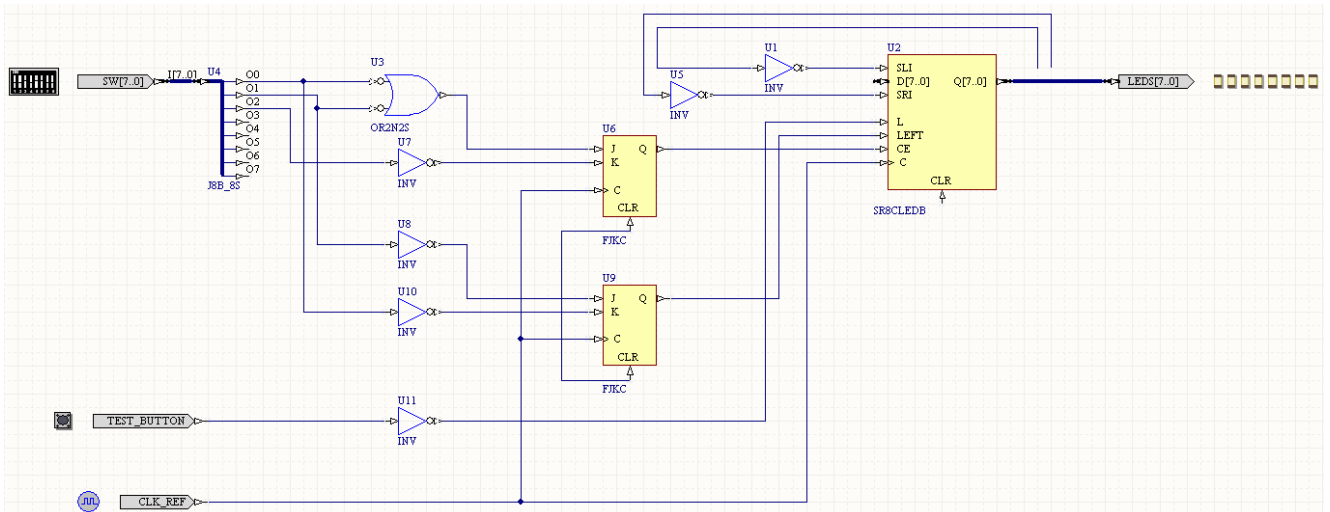

Figure 4. Initial wiring – placement of wires and buses.
1. Go ahead and wire the design initially, as shown in Figure 4, by using the **Place » Wire** and **Place » Bus** commands (these commands are also available from the **Wiring** toolbar, using the and buttons respectively).